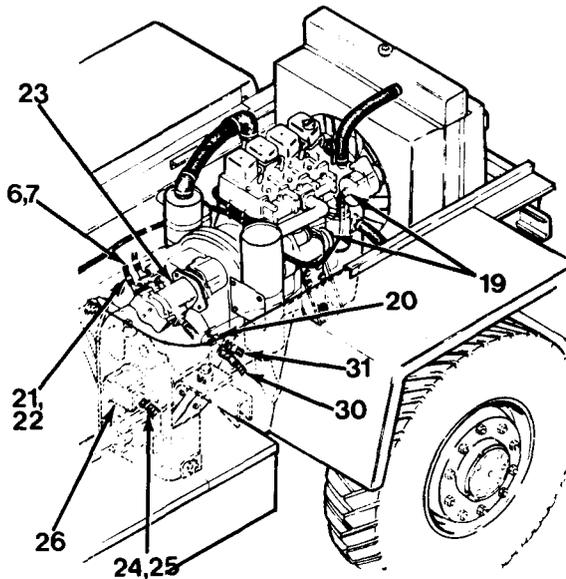
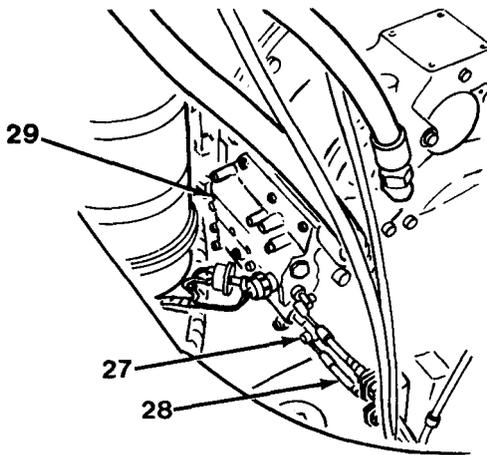

Figure 6-2
Figure 6-3
7. Disconnect all electrical connections (19, Figure 6-2) from alternator, starter and temperature and pressure sending units. Remove all mounting hardware from wiring harness.
8. Disconnect two hoses (6) and (7) from charge pump on top right hand side of transmission. Secure hoses out of the way for removal.
9. Disconnect hoses (20), (21) and (22) from main hydraulic pump (23), and two hoses (24) and (25) from ground driven steering pump (26) (refer to pages 13-37 and 13-44).
10. Remove two cotter pins (27) to disconnect two control cables (28) from transmission control valve (29). Loosen two jam nuts on each cable and remove cables (28, Figure 6-3) from mounting bracket. Remove two oil cooler hoses (30) and (31, Figure 6-2) from left-hand side of transmission.